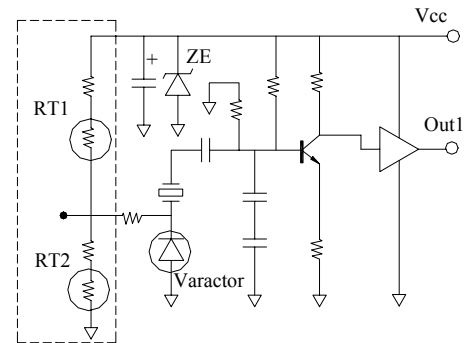

Figure 14
A temperature-compensated crystal oscillator is a crystal oscillator with a temperature-compensated network. The network consists of at least two (2) thermistors (temperature-variable resistors). The thermistors, which are selected during testing for temperature coefficient and values, are used to steer the control voltage in order to compensate the change in frequency over temperature. Temperature compensation can be achieved with or without use of a varactor, however this technique is harder to accomplish because exact resistors values have to be used to compensate. Figure 14 shows a typical TCXO circuit with a thermistor network.